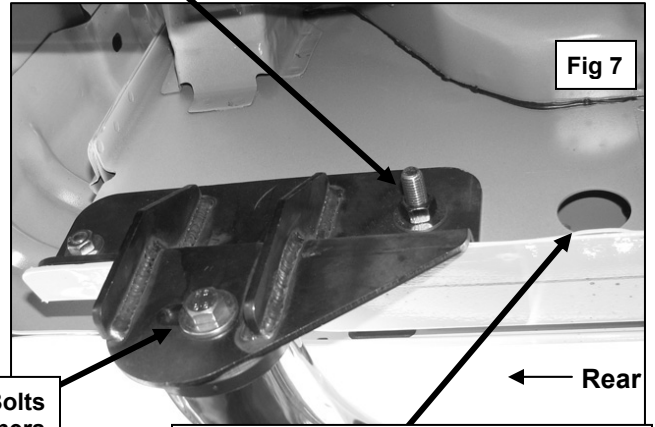

Fig 7
- b. **SUPERCAB:** Select (1) 12mm Bolt Plate and insert it into the larger of the two holes in the body panel and back out the smaller hole. Thread (1) 12mm Plastic Retainer all the way onto it until it is snug against the body, **(Figure 7)**. **IMPORTANT:** The Plastic Retainer is designed to prevent the Bolt Plate from falling into the body cavity and to aid in mounting the Bracket. Once inserted, thread the Plastic Retainer all of the way down to snug up against the body.